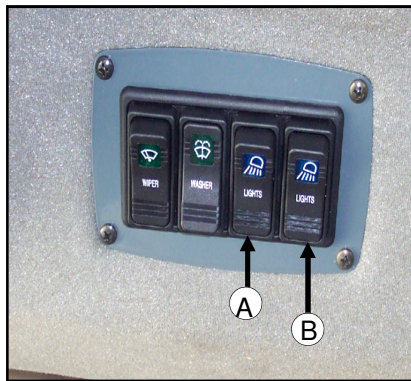

FIG. 30-1
**LIGHTS**— The field lights (fig. 30-2), located on the front of the cab with the headlights, are activated by pushing the switch located on the upper right cab headliner (fig. 30-1, item A). Use these lights when operating in the field after dark. Turn them off before entering a public roadway.
The work lights (fig. 30-3), located on each boom cradle, one facing forward and one facing backward, are activated by pressing the second switch (fig. 30.1, item B) located on the right upper cab headliner. These lights can also be used when operating in the field after dark. Turn them off before entering a public roadway.